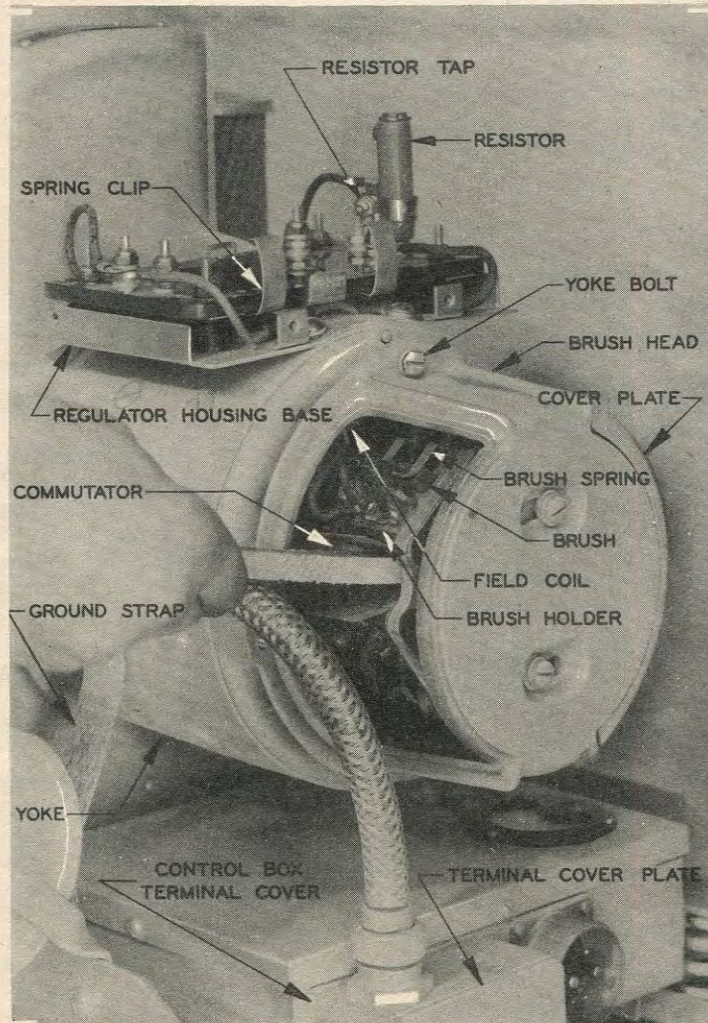

Figure 8 - Commutator Cleaning
(4) Resistor. - If, after following instructions in preceding paragraph (3), no voltage is registered, check the resistor which is mounted on the voltage regulator assembly (for location see figure 8) by starting unit and shorting out the resistor between its tap and bottom terminal. If voltmeter then registers correct voltage, install new resistor and adjust tap in accordance with the following instructions.
(a) Commutator. (See figure 8.) - To inspect commutator remove brush head cover plates. The commutator should require no cleaning for several hundred hours of operation. It need be cleaned only when excessively carbonized, when too much arcing occurs, or if scored. To clean commutator, first start engine and then place a strip of very fine sandpaper (00 to 8/0) (not emery) on the commutator and hold down with a stick of wood until commutator is clean.
(b) Brush Replacement. (See figure 8.) - Brushes should be inspected every 300 hours, and require replacement only if brush spring rides within 1/16 inch of brush holder. For inspection, remove brush head cover plates. If any brushes require replacing, requisition an entire set of 8. Brushes will be shipped as a set in an envelope. However, if loose brushes are received from depot stock, check the manufacturer's markings before installation to make certain that all brushes are from the same manufacturer. These markings are: (1) Morganite - "CM-9" (2) Henrite - "2885" (3) LeCarbone - "P-368." Using mixed brushes causes greatly reduced brush life and possible damage to commutator. A sufficient number of brushes are not obtainable from one manufacturer and the material in the brushes supplied is not identical. New brushes are formed to shape of commutator to eliminate arcing and to insure perfect electrical contact. In replacing brushes, no special care in wearing in is required. Note that wearing surface of brush is so formed as to fit contour of commutator, and must be
(c) Brush Springs. (See figure 8.) - Tension of brush spring should be approximately 17 ounces.
1. Dismantling.a. Generator End. (See figure 8.)(1) To Remove Yoke and Coil Assembly.
(b) Remove two screws holding terminal plate and terminal plate cover to control box. (See figure 8.) Remove nuts then exposed with wrench No. 22058 and disconnect three leads.
(2) To Remove Voltage Regulator. (See figure 8.) The regulator can be removed by taking out four screws holding housing cover to base, lifting off cover, and then releasing two spring clips holding regulator to base.
(3) To Remove Brush Head from Yoke. - Disconnect, at brushholder four leads coming from yoke and coil assembly. For removal of brush assembly from brush head, take out the two screws in the slots in the face of the brush head.
(4) To Remove Armature. - Take out bolt at end of armature shaft which holds armature to engine crankshaft. If armature does not come free from shaft readily, in place of the armature bolt, insert the long armature pin No. S-590-1 and jackscrew No. S-394. Turn up screw as far as threads permit. Remove jackscrew and insert one short pin No. S-389; repeat operation. Again repeat operation with the remaining two pins successively. Armature will then come free.